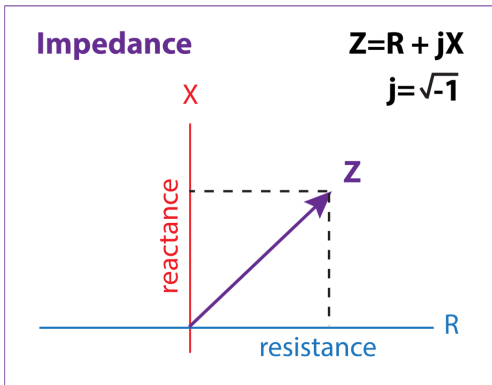

Figure 1
When showing the impedance as vector (Z), it is the addition of resistance (R) and reactance (X). On the Cartesian coordinate system this will be as shown in Figure 1.